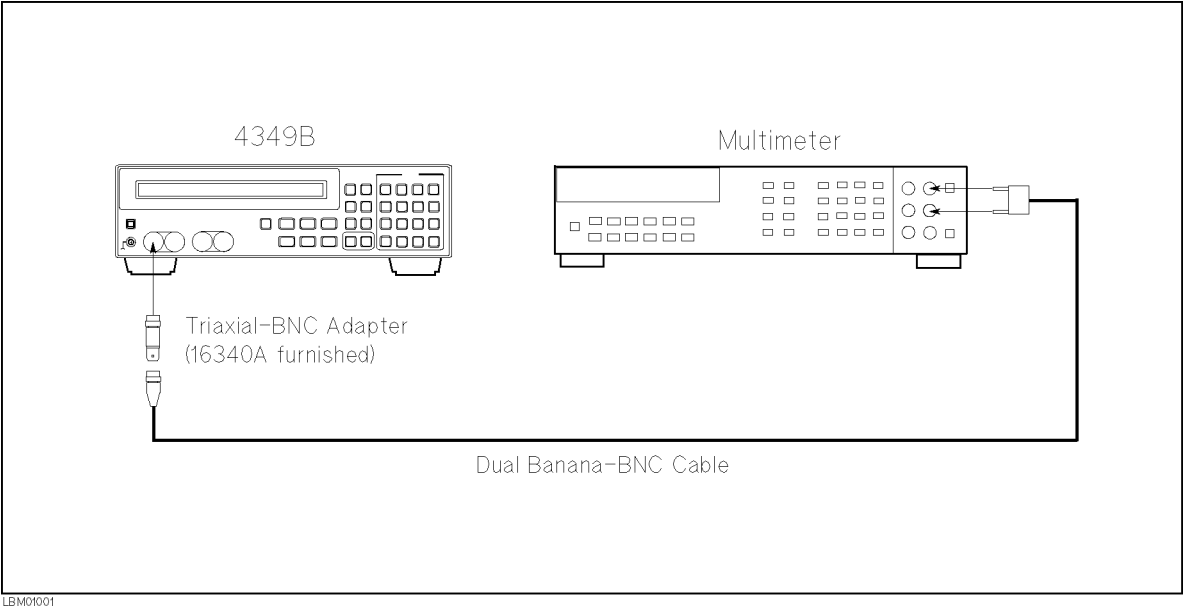

Figure 9-1. Ammeter Offset Voltage Test Setup
2. Set up the equipment as shown in Figure 9-1.